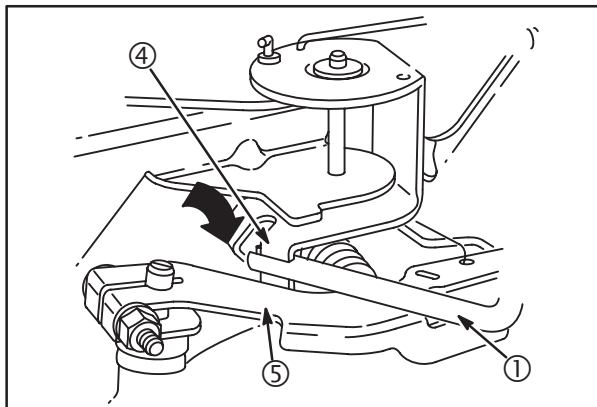

Fig. 33
3. With equipment control lever in SLOW position and engine running at governed idle RPM, use Tang Bender #19352 (1), to bend throttle restrictor tang (4) so that it just contacts governor lever (5), **Fig. 33**.